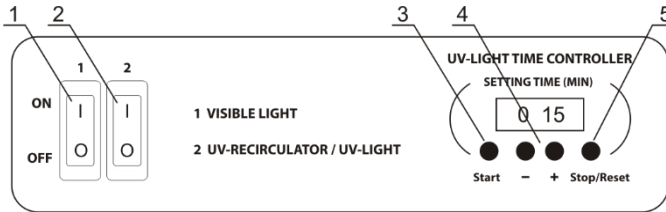
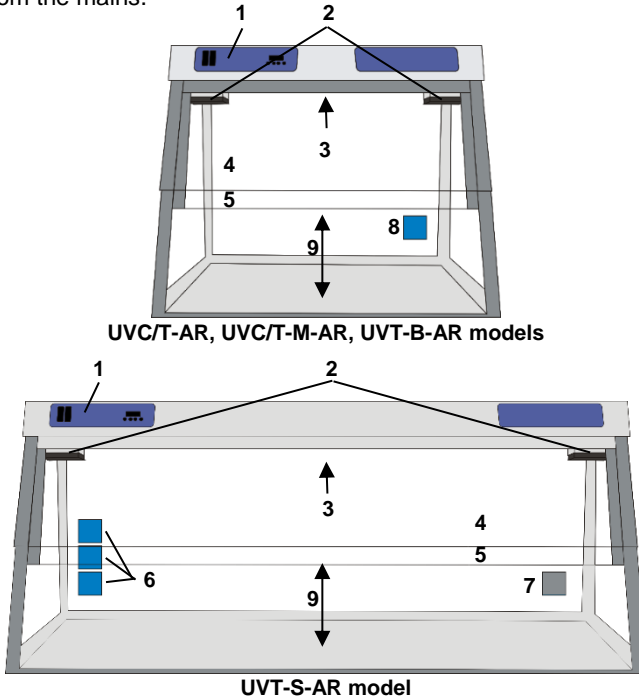

Fig. 2. Control panel
Fig. 3. DNA/RNA UV box, frontal view:
Caution! The open UV lamp inside the unit (fig. 3/3) operates only when the front protective screen is fully lowered. Any operations under direct UV radiation is forbidden!
- 5.2.1. Turn ON the switch **2** (fig. 2/2) on the control panel (fig. 3/1). This switches on the UV recirculator inside the unit (fig. 3/2) and the open UV lamp exposition time controller. The UV recirculator will operate all the time until the switch **2** is turned OFF.
- 5.2.2. Use the timer **+** and **-** keys (fig. 2/4) to increase and decrease the time (UV-LIGHT TIME CONTROLLER) of direct UV light exposition of the working place, with 1 min increment. Pressing down and holding the button for more than 2 seconds increases the increment.
- 5.2.3. Press the **Start** key (fig. 2/3), the UV lamp will be turned on automatically and the timer will start counting the exposition time. Timer indicator shows actual time: until 1 hour - in minutes and seconds (mm:ss), after 1 hour - in hours and minutes (hh:mm). After reaching the set time the timer will automatically turn off the open UV lamp.
- 5.2.4. The open UV lamp can be switched off by pressing the **Stop/Reset** key (fig. 2/5). The set time of exposition will be saved in the memory. The set time will not be saved after the complete turning off the unit.
- 5.3.1. Turn ON switch **1** (fig. 2/1) for lighting of the working place. This turns ON the luminescent (visible light) lamp inside the cabinet (fig. 3/3).
- 5.3.2. Lift the front protective screen (fig. 3/5) up for work in the cabinet. The opening height is up to 180 mm (fig. 3/9).
Do not block recirculator openings (fig. 3/2).
- 5.3.3. To use electric devices inside the cabinet, pull their power cable through the inlet and close the flap (fig. 3/7 and 3/8, models with cable inlet) or connect the power cable to a built-in mains socket (fig. 3/6 and 3/8, models with mains socket).
- 7.5. **Dust filter replacement.** The dust filters (fig. 3/2) on either end of the UV recirculator with the hidden UV lamp should be checked monthly and cleaned or replaced when they become clogged. To check, replace or clean the filters, simply unclip the covers, if it is necessary fit a new or rinse in water, dry and set up existing filters. Clip covers back in place.